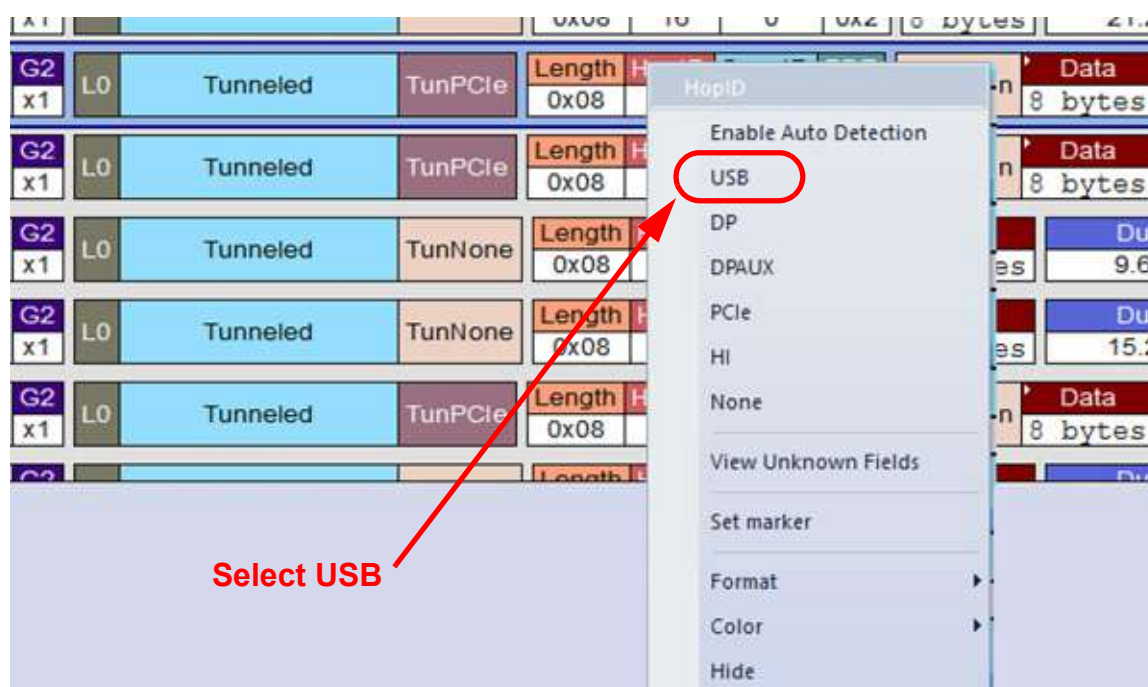

Figure 6.7: Selecting HopID
2. Right click on the HopID Field of the Tunneled Packet. Choose one of the Protocol types from the drop-down list. See Figure 6.7.